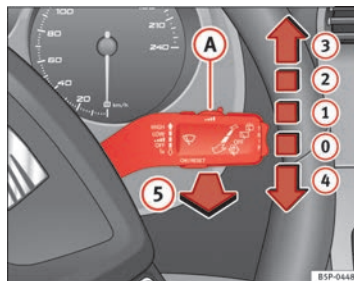

Fig. 84 Windscreen wiper and windscreen wash lever
The windscreen wiper lever ⇒ fig. 84 has the following positions:
- The next speed down will automatically be selected if speed ⇒ fig. 84 **2** or **3** is selected when the vehicle stops. The set speed will be resumed when the vehicle starts again